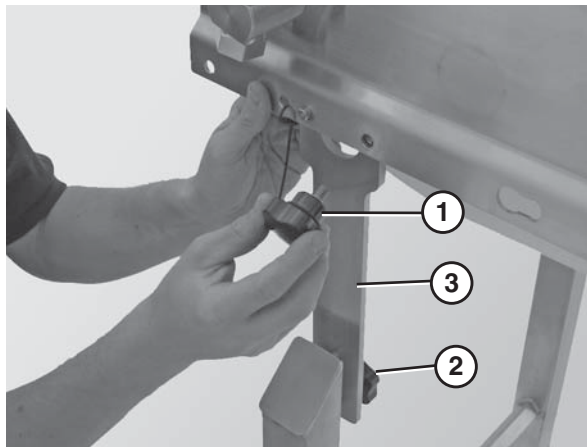

Figure 22
1. Disconnect the cutoff knob (Figure 22, item 1).
2. Loosen the lobed knob (Figure 22, item 2) and push in on the pivot bracket (Figure 22, item 3). *Note: The lobed knob will need to be loose enough that the locking pins are no longer holding the bracket in place.*